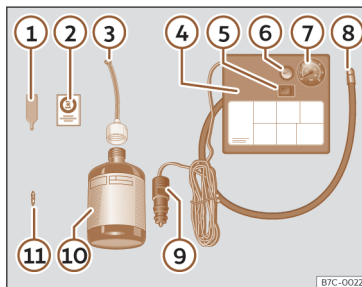

Fig. 39 Standard representation: anti-puncture kit contents.
The anti-puncture kit is located underneath the floor covering in the luggage compartment. It includes the following components >>> Fig. 39:
- Unscrew the tyre valve cap and insert. Use the >>> Fig. 39 ① tool to remove the insert. Place it on a clean surface.
- Shake the tyre sealant bottle vigorously >>> Fig. 39 ⑩.
- Screw the inflator tube >>> Fig. 39 ③ into the sealant bottle. The bottle's seal will break automatically.
- Remove the lid from the filling tube >>> Fig. 39 ③ and screw the open end of the tube into the tyre valve. >>>
- Place the insert back into the tyre valve using the tool»» **Fig. 39 ①**.
- Screw the compressor tyre inflator tube »» **Fig. 39 ⑧** into the tyre valve.
- Check that the air bleed screw is closed »» **Fig. 39 ⑥**.
- Insert the connector»» **Fig. 39 ⑨** into the vehicle's 12-volt socket»» **page 153**.
- Turn the air compressor on with the ON/OFF switch»» **Fig. 39 ⑤**.
- Attach the sticker»» **Fig. 39 ②** to the instrument cluster, within the driver's visual field.
Screw the inflator tube»» **Fig. 39 ⑤** again and check the pressure on the gauge **⑥**.